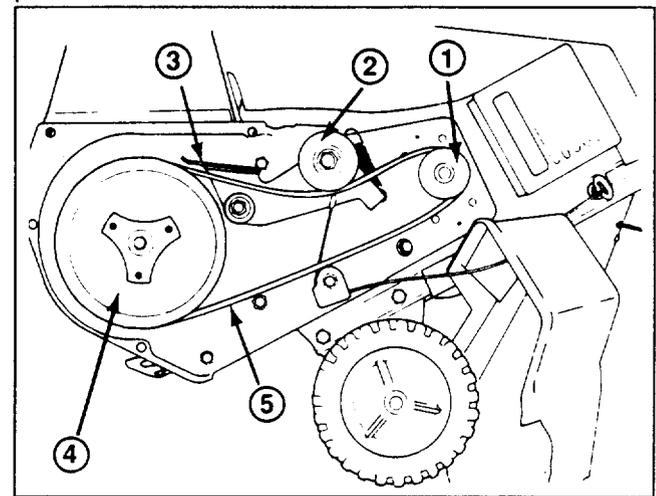

Figure 14
5. REMOVING BELT (Fig. 14)– Slip belt off idler pulley. Push idler pulley downward, and slip belt from rotor pulley, idler pulley, and engine pulley.
6. INSTALLING BELT (Fig. 14)– Loop belt around rotor pulley and engine pulley first without slipping belt between rotor pulley and brake. Next, push idler pulley downward and slide belt between rotor pulley and brake. Release idler pulley, and slip belt under idler pulley.